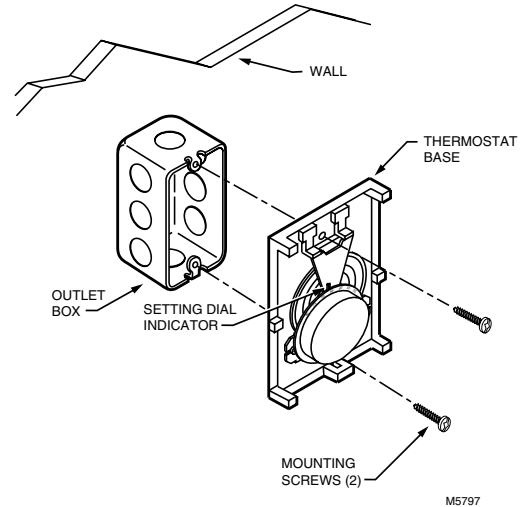

Fig. 4. Mounting thermostat to outlet box.
8. Mount the thermostat on the outlet box as shown in Fig. 4. Secure the thermostat by tightening the two mounting screws.
- 7** Mount the thermostat on the outlet box as shown in Fig. 4. Secure the thermostat by tightening the two mounting screws.